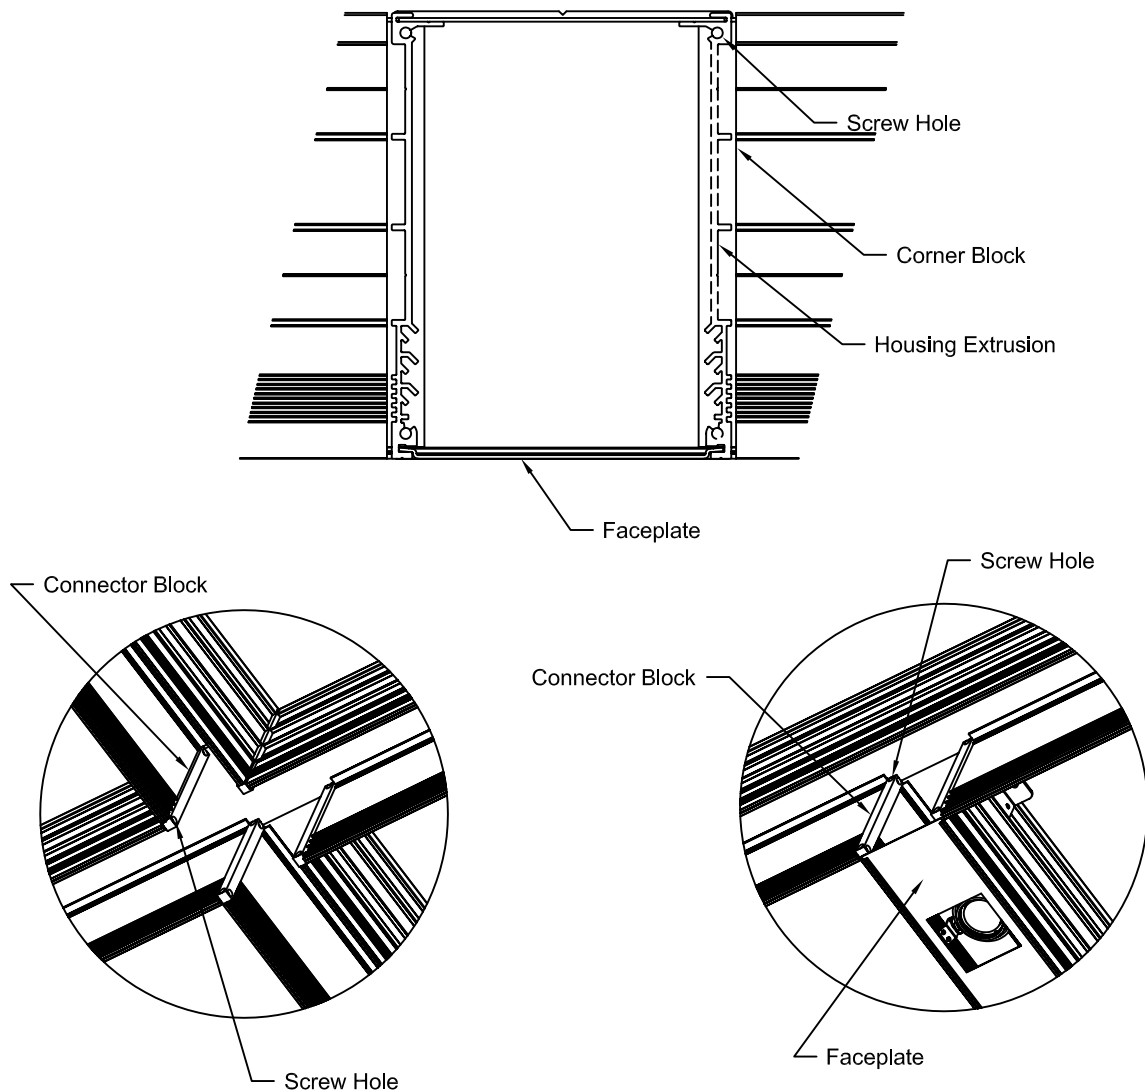
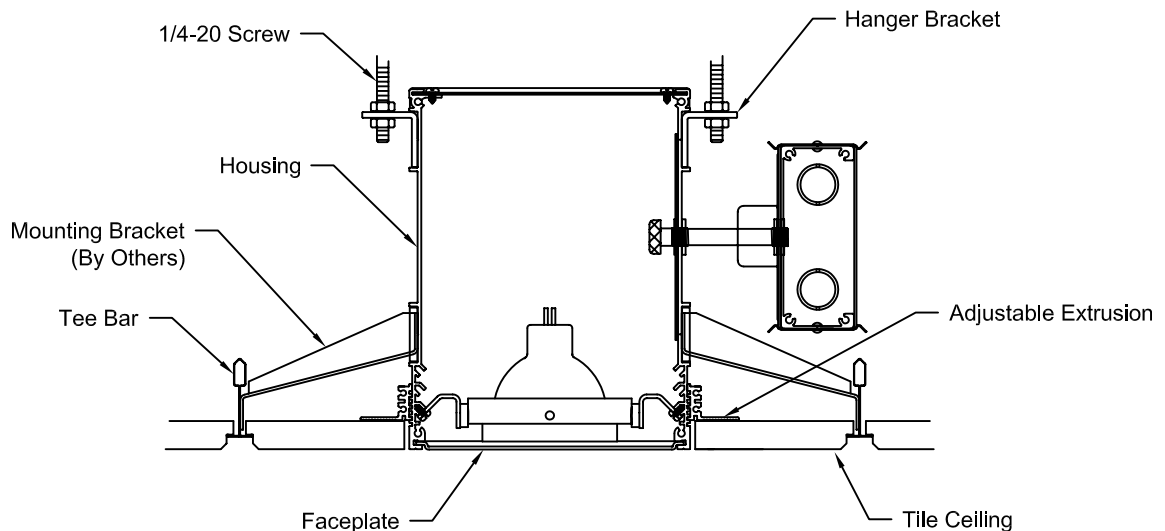

Figure 2
Figure 4
4. Align Screw Holes in Corner Blocks with Screw Holes in Housing Extrusion. See Fig. 2.
1. Install Mounting Brackets (By Others). See Fig. 4.
2. Hang Housing(s) from Hanger Brackets located on sides of Fixture(s) using 1/4-20 Screw. See Fig. 2 and Fig. 4.
3. Adjust elevation of Housing so that Adjustable Extrusion (set to 5/8" thickness at factory) will sit on top of installed Tile Ceiling and bottom of Housing walls match bottom of Tile Ceiling surface. See Fig. 4.
4. Install Tile Ceiling to edge of Housing. See Fig. 4.